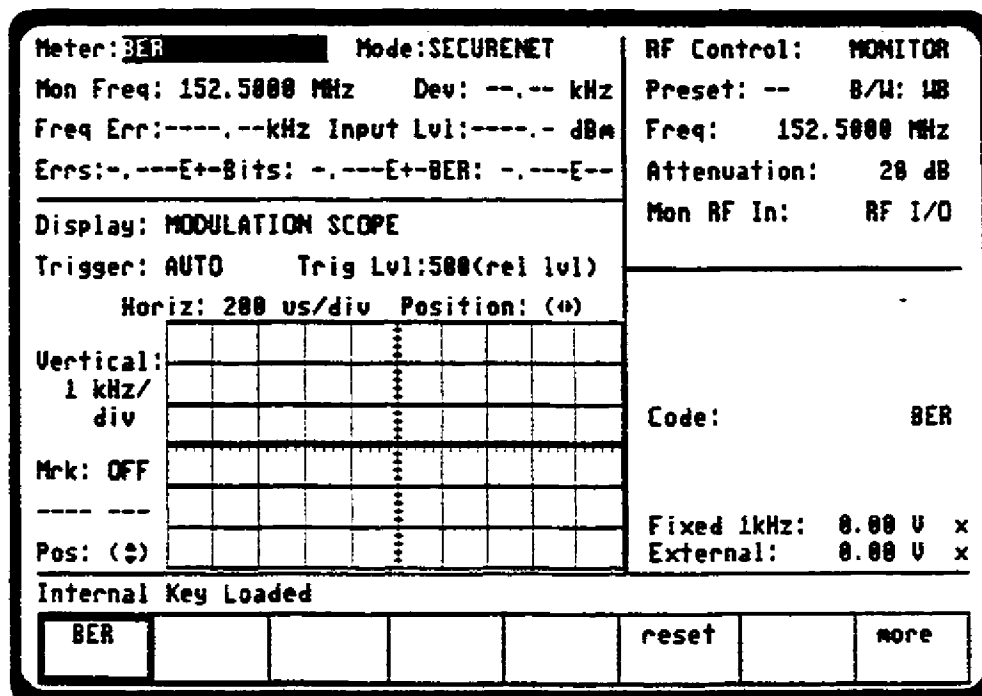

Figure 4-2. Radio (BER Test Mode) BER Meter Sample
5. Access the BER Meter by placing the cursor in the Display Zone's "Meter:" field and pressing the **more** softkey until the **BER** softkey is presented. Select BER via the softkey to display the BER Meter. A screen similar to figure 4-2 appears.